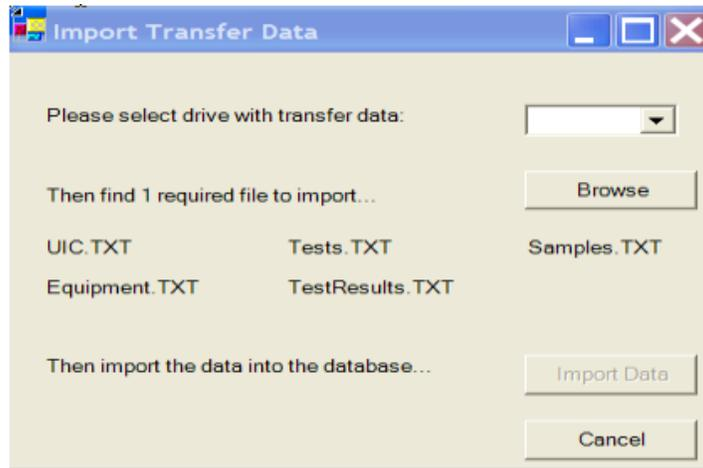

Figure 66. Import Transfer Data
(2). Press import transfer files and the following screen will appear (Figure 66).